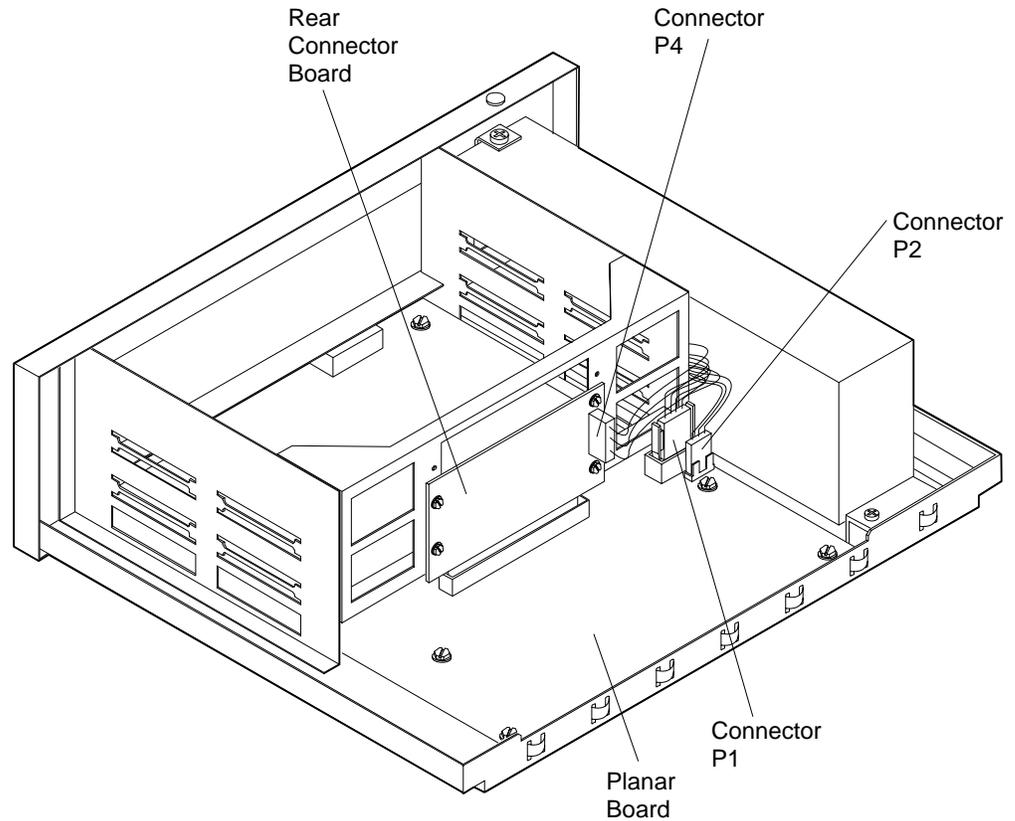

Figure 12-18. Connector and Planar Board Connectors
8. Connect the black connector (labeled P1) to the planar board as indicated in Figure 12-18.
9. Connect the small white connector (labeled P2) to the planar board as indicated in Figure 12-18.
10. Connect the larger white connector (labeled P4) to the rear connector board as indicated in Figure 12-18.